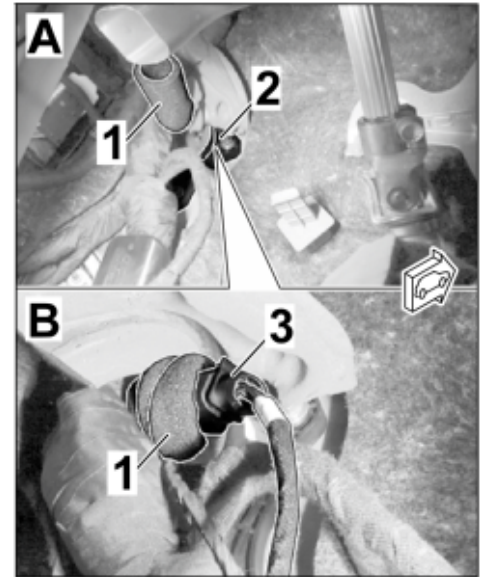

Figure 21 (similar)
- 3.1.1 Expose the connection point (preparation = socket connector, 6-pin) or plug connection in the passenger compartment of the vehicle, area of bulkhead grommet, A-pillar left. ⇒ *Figure 21 (similar) -A-*
- 3.1.3 Establish plug connection with wire harness for the exhaust flaps (6-pin). ⇒ *Figure 21 (similar) -B-*